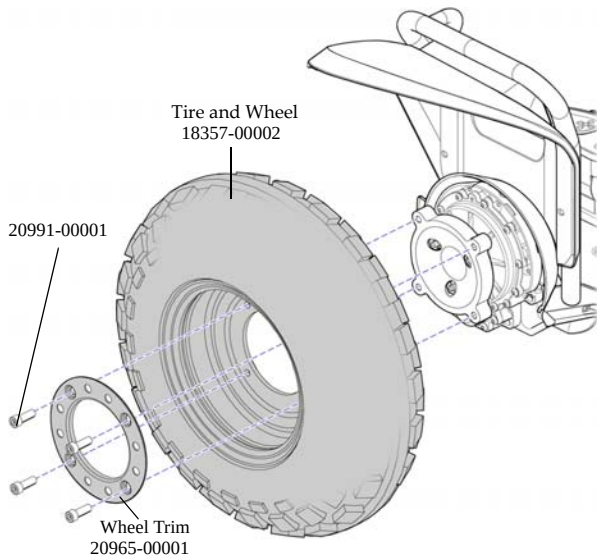

Figure 4-2: Remove or Install Tire/Wheel Assembly, x2
4. Use 8mm hex wrench to remove (4) fasteners. See Figure 4-2.
4. Place wheel trim on wheel; align mounting holes. See Figure 4-2.
5. Thread (4) 8mm fasteners (20991-00001) through trim and wheel and into hub adapter.